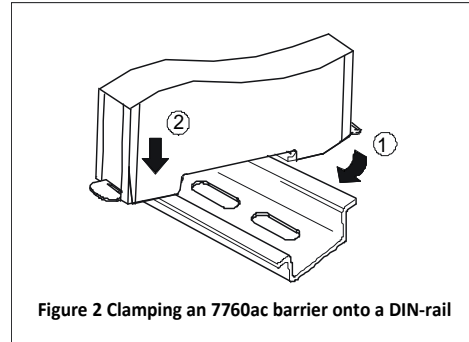

Figure 2 Clamping an 7760ac barrier onto a DIN-rail
- a) Hook the hazardous-side end of the mounting/earthing clamp over the hazardous-side flange of the DIN-rail (figure 2).